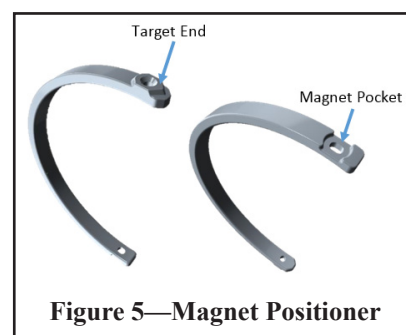

Figure 5—Magnet Positioner
3. The magnet positioner has two unique ends, see Figure 5. The first end is the target end that will point to the desired set point level, and the second end has a pocket for the magnet to set into.